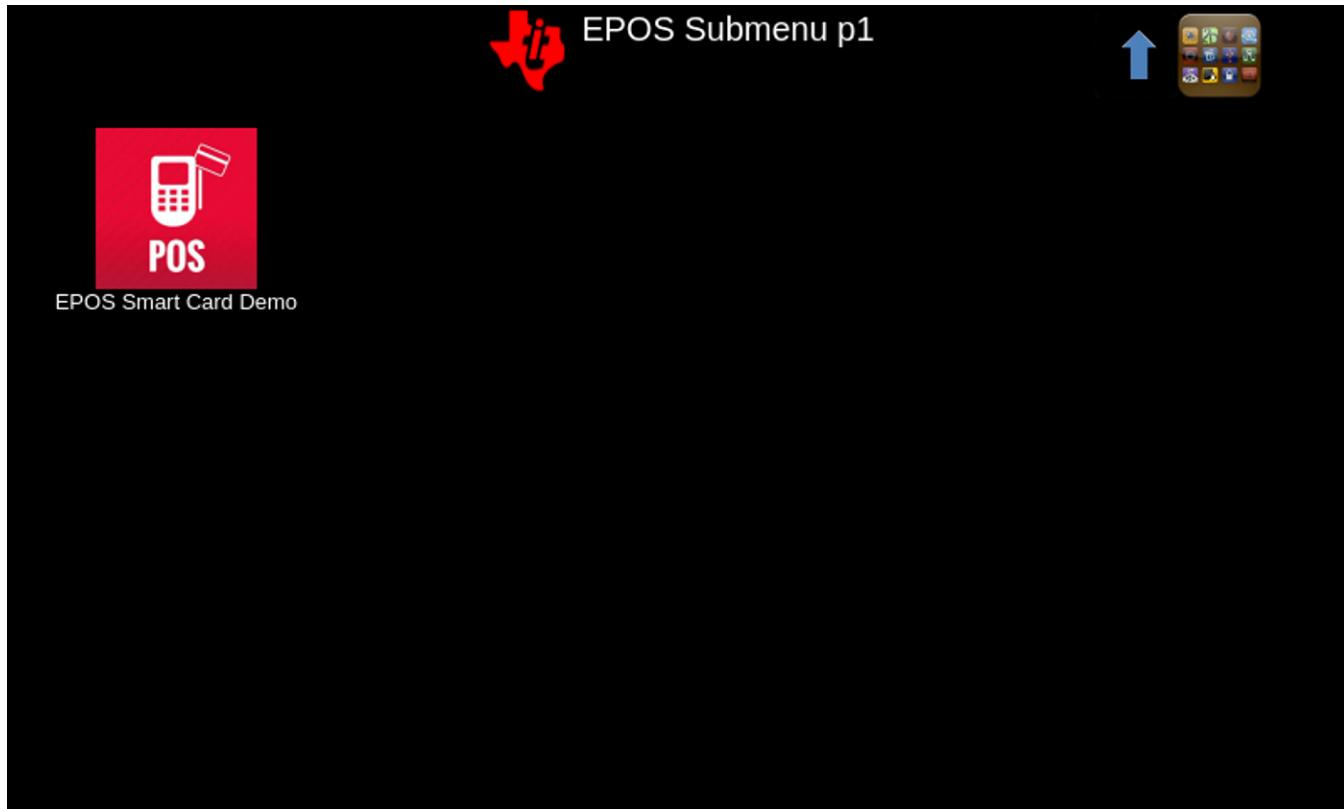

図 10. EPOS Submenu to Launch EPOS Smart Card Demo
1. On Matrix GUI, select the EPOS icon to launch the submenu (see 図 10).